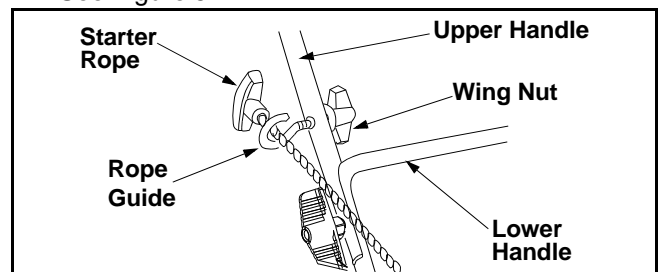

Figure 5
- If not already, move rope guide to the first hole above the lower handle on right side. The wing nut loosens and secures the rope guide to handle. See Figure 5.